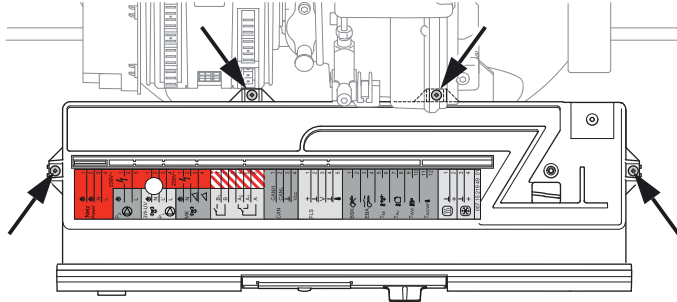

Fig. 6-14 Remove the locking screws from the control panel casing
2. Remove the 4 locking screws on the control panel casing using a screwdriver (fig. 6-14).